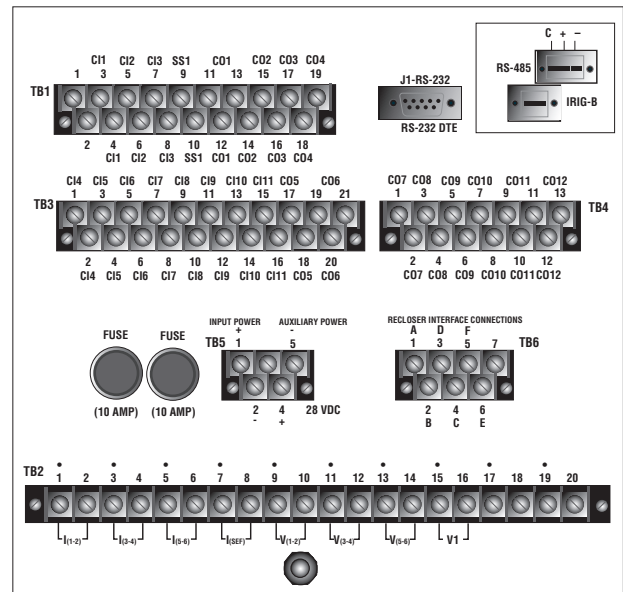

Figure 41. Back of Form 6 rack mount recloser control
3. Use a screwdriver to re-connect all wiring on terminal block TB2 (Voltage/Current Inputs) to the control (**Figure 41**).
4. Connect any serial communications ports and IRIG-B timing connection (**Figure 41**).
5. Connect terminal block TB5 to the control by screwing the mounting screw through each side of the terminal block (Input Power) and into the control (**Figure 41**).
6. Connect any control input and status output wiring to TB1, TB3, and TB4 (**Figure 41**).
7. Connect terminal block TB6 to the control by screwing the mounting screw through each side of the terminal block (Recloser Interface Connections) and into the control (**Figure 41**).